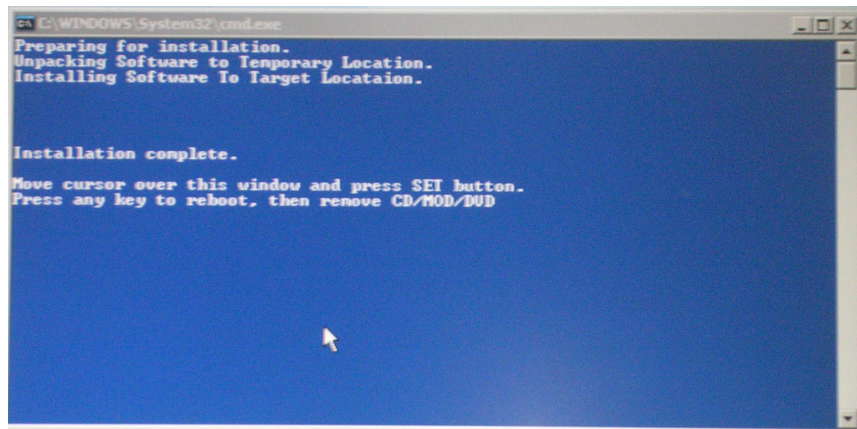

Figure 8-131 Software Installation Complete Message
- 6.) When done, the Installation Complete message is displayed (refer to Figure 8-131 on page 8-137).